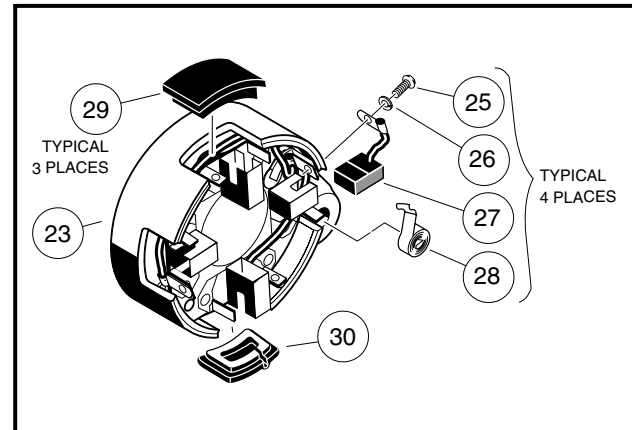
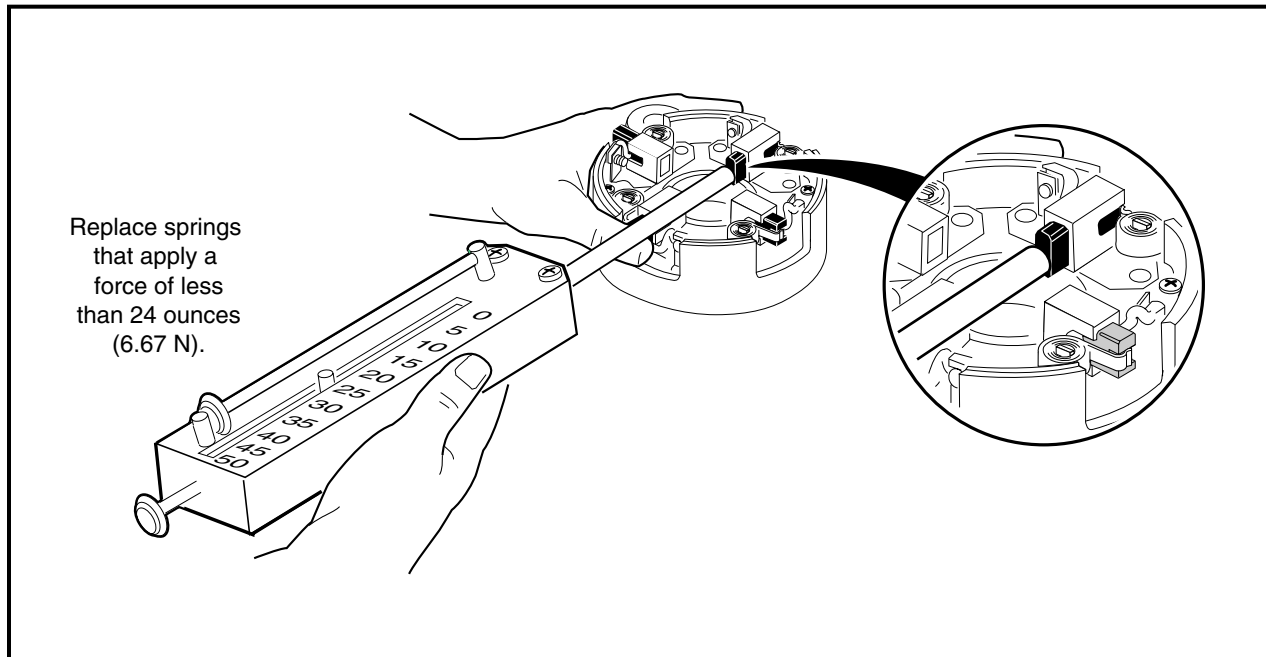

Figure 12-4 Brush Covers and Brushes
Figure 12-6 Brush Spring Tension Test
2. Remove brush covers (29 and 30), screws (25) and lock washers (26), brush springs (28), and brushes (27) (**Figure 12-4, Page 12-4**). See following **NOTE**.
2. Install the four brushes (27) into their holders and insert the four brush springs (28) (**Figure 12-4, Page 12-4**). Using a spring scale, test brush spring tension. If any spring has a tension less than 24 ounces (6.67 N), replace all four springs (**Figure 12-6, Page 12-5**). See following **CAUTION**.
1. Connect the brush wires to the holders using four lock washers (26) and four screws (25), making sure the crossover leads are connected also. Tighten the screws to 31 in-lb (3.5 N·m) (**Figure 12-4, Page 12-4**).
4. Push the brushes down into the holders. Position springs into the notches in the brushes. Install the brush cover (30) that has the drain hole in it next to the A2 terminal. Install the remaining three brush covers (29) in the openings in the commutator end cover (23) (**Figure 12-4, Page 12-4**).
10. Push the brushes down into the holders. Place springs into the notches in the brushes. Install the brush cover (30) that has the drain hole in it next to the A2 terminal. Install the remaining three brush covers (29) in the openings in the commutator end cover (23) (**Figure 12-4, Page 12-4**).